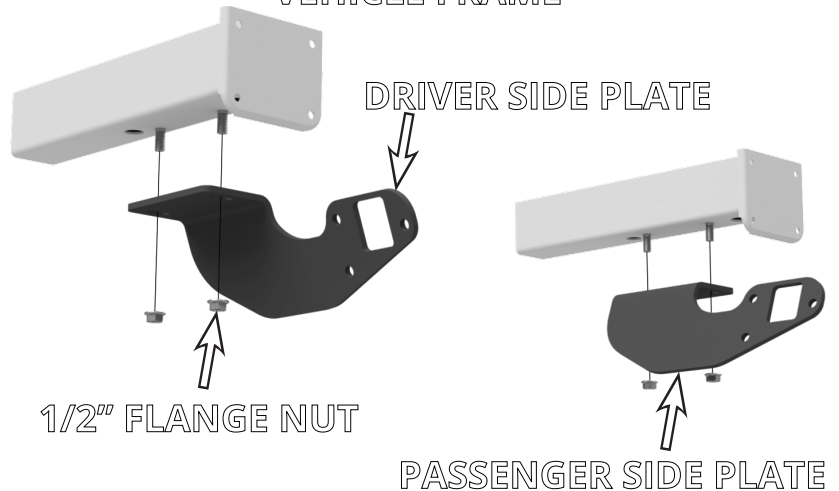

FIGURE B1: VIEW UNDER THE REAR OF THE VEHICLE
- Attach each side plate to the vehicle using the two 1/2 x 1-1/4" carriage bolts that are positioned inside the chassis channels. Pass each side plate up over the bolts and secure them with two 1/2" flange nuts, as shown in Figure B1. Loosely attach bolts at this time.